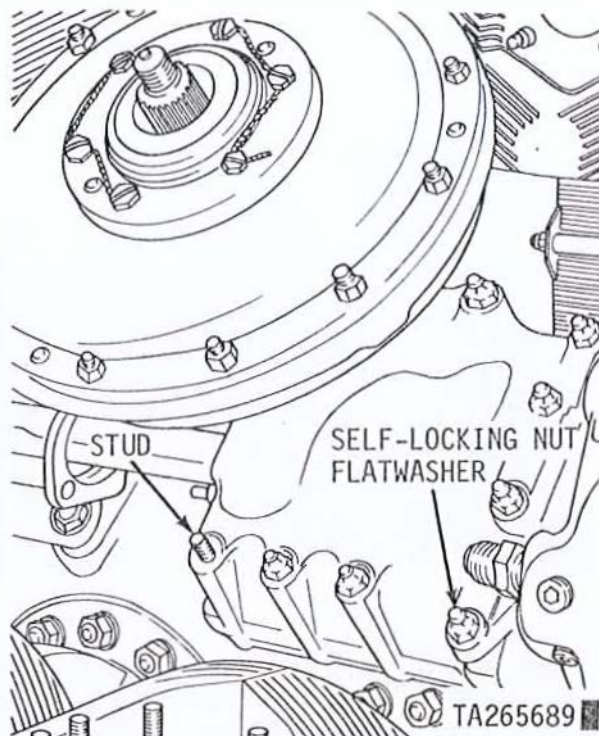
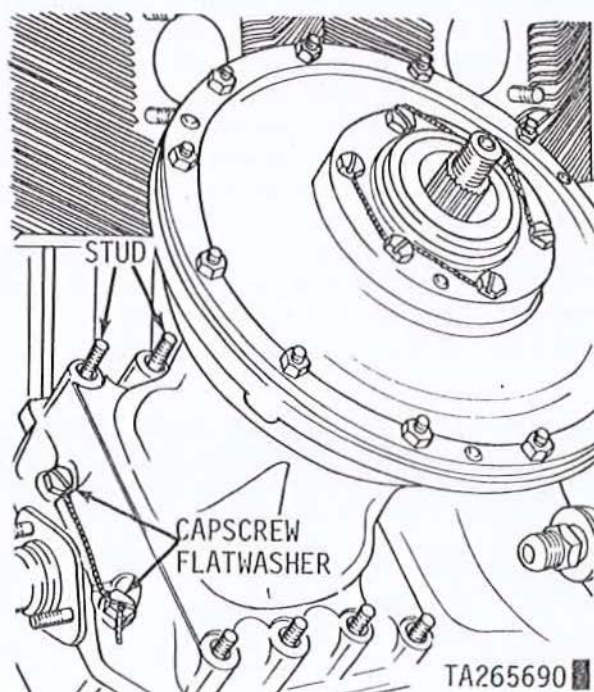

Figure 3-81. Removing or installing front fan drive housing attaching parts — front view.
Figure 3-82. Removing or installing front fan drive housing attaching parts — rear view.
b. Remove nine self-locking nuts and flat washers (fig. 3-81) attaching front fan drive housing to mounting base. One self-locking nut at stud was removed when fire extinguisher tube was removed (fig. 3-52). Cut locking wire and remove two capscrews and flat washers (fig. 3-82) attaching front fan drive housing to mounting base.